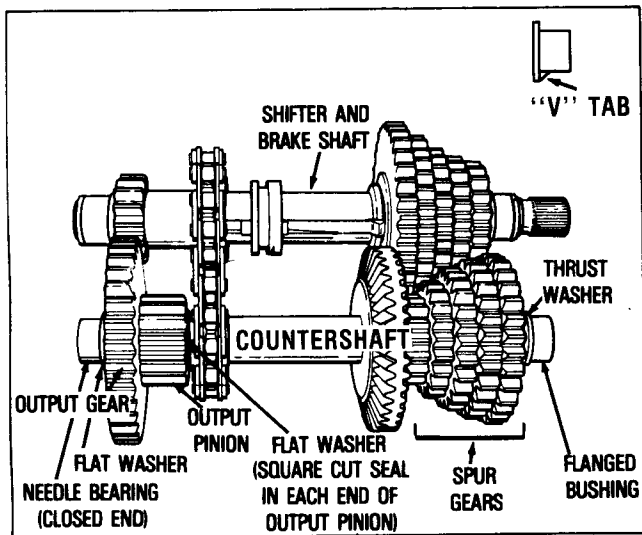

FIGURE 5
- From counter shaft, remove the needle bearing (closed end), square cut seal, flat washers, output gear and output pinion, and 2 square cut seals and flat washers from the countershaft (Figure 5) (2 seals in output pinion - 1 in needle bearing cap). Seals in countershaft are larger than those on brake shaft ends. Always replace with new seals whenever removed.